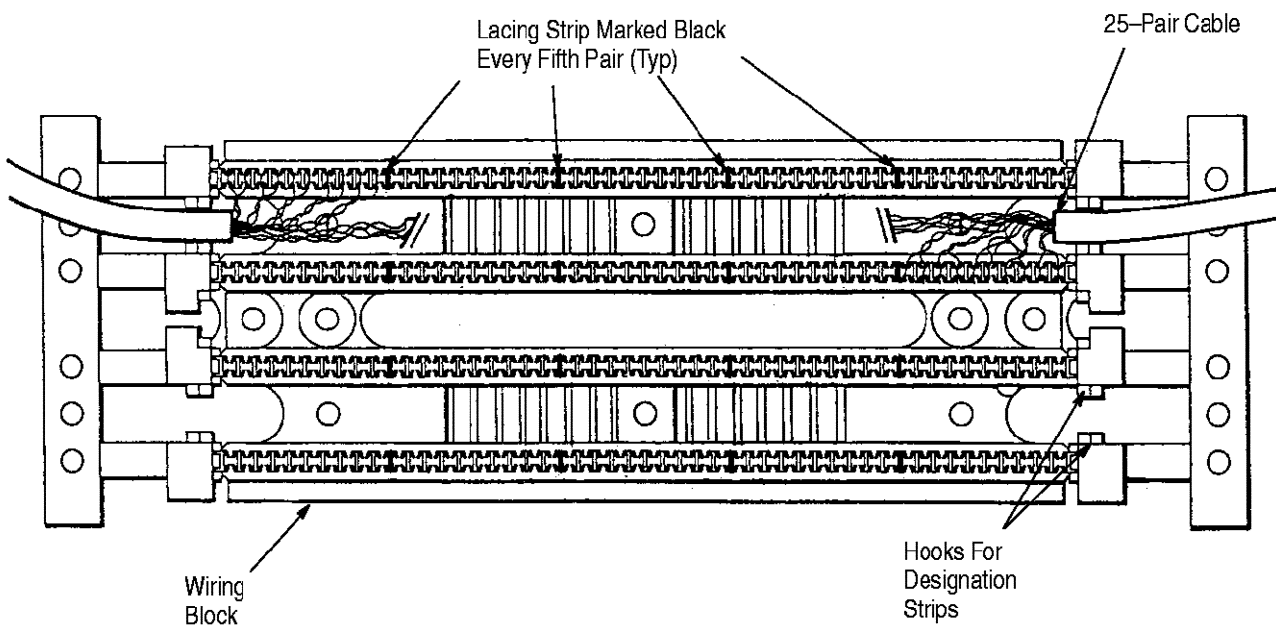

Figure 2
- Route cables into wiring block as shown in Figure 2. Lace each pair into position in index strip slots while maintaining correct tip (white) and ring (colored) sequence. Complete lacing of index strip and inspect for accuracy (use black markings as reference).